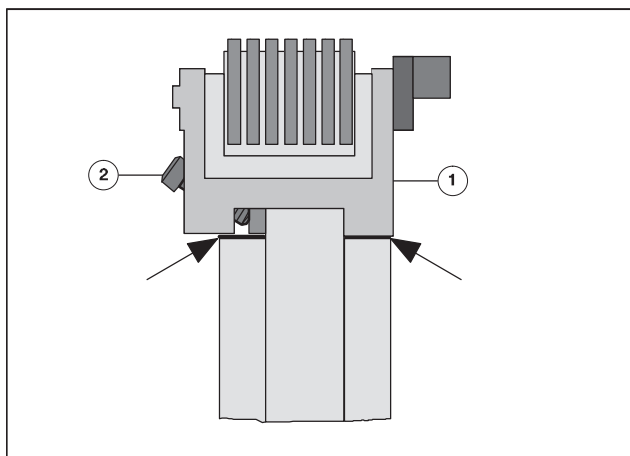

Fig. 49 Underlaying the numbering box
If one numbering box/printing block holder requires more pressure than another, e.g. due to greater wear and tear, compensate the pressure by underlaying the numbering box (Fig. 49/1) /the printing block holder:
1. Unscrew the Allen screw (Fig. 49/2) of the numbering box/printing block holder.
2. Insert strips of paper of the required thickness on both sides (Fig. 49, arrows) between the mounting ring and the numbering box/printing block holder.